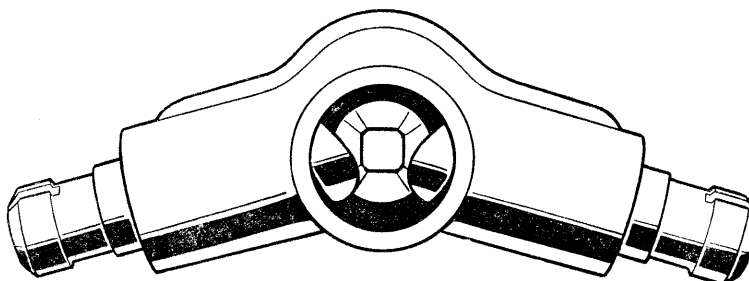

Fig. H-18—Correct pair of plungers in incorrect bores, early type
- (a) R.H. plunger in L.H. bore and L.H. plunger in R.H. bore (Fig. H-18).